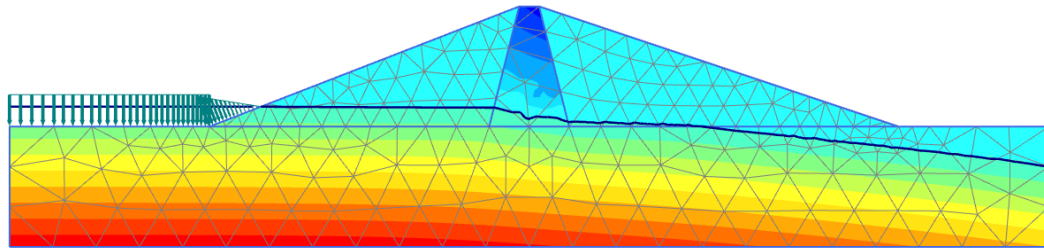

Figure 188: Pore pressure distribution, ( $p_{active}$ ), for low reservoir level
- The steady-state situation with a low reservoir level is shown in Figure 188 (on page 211).